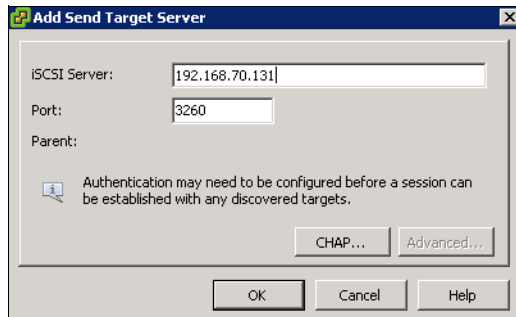

Figure 12-52 Enter a target IP address
4. To add a target, enter the target IP address (Figure 12-52). The target IP address is the IP address of a node in the I/O group from which you are mapping the iSCSI volume. Leave the IP port number at the default value of 3260, and click **OK**. The connection between the initiator and target is established.